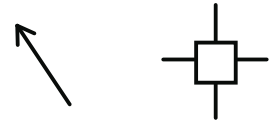

Figure 4-12
- **Digitizing Cursor Type:** If you purchased the editing and digitizing features for EDS III, you have the option of changing the cursor from the standard arrow shape to a crosshair version (refer to Figure 4-12). The crosshair cursor may be easier to use for on-screen digitizing.